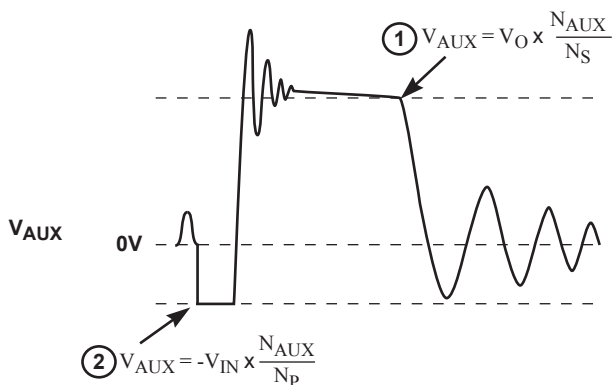

Figure 9.4: Auxiliary Voltage Waveforms
and reflects the output voltage as shown in Figure 9.4.
During constant current mode operation, the output voltage regulation is not guaranteed. The point 1 in Figure 9.4, which reflects output voltage is not regulated to  $FB_{(NOM)}$  (i.e. 1.536V). For LED applications, where current regulation is critical, design needs to ensure the point 1 is well below  $FB_{(NOM)}$  with some margin.
The iW3626 also incorporates constant voltage (CV) operation, where output voltage maintains constant by regulating the point 1 indicated in Figure 9.4 to  $FB_{NOM}$  (1.536V typically). During constant voltage operation, the iW3626 may operate in pulse-width-modulation (PWM) mode or pulse-frequency-modulation (PFM) mode, depending on load conditions. In particular, the iW3626 allows the switching frequency to drop as low as 275Hz at PFM mode, which helps system stay regulated at very light load condition, thus improving active operating efficiency by using large pre-load resistor (50k $\Omega$  or above).